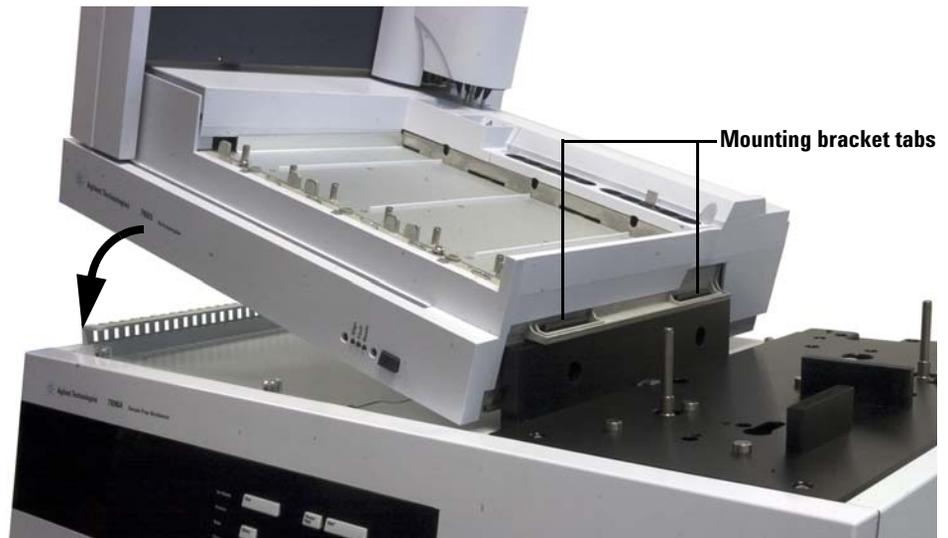

Figure 12 Installing the Sample Tray to the Main Frame
- 1 Using both hands, carefully lower the Sample Tray onto the Main Frame base. Align the Sample Tray mounting bracket tabs with the Main Frame mounting bracket (Figure 12). Lower the Sample Tray at an angle so that the lower tab on the bracket inserts into the fitting on the Main Frame mounting bracket. Make sure the Sample Tray mounting bracket tabs align with the Main Frame mounting bracket.